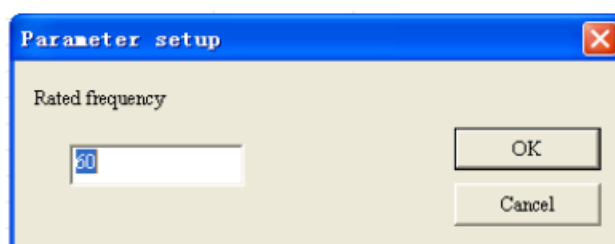

Figure 3-4 Parameter setup dialog box
- Double-click the line of the desired parameter, and the Parameter setup dialog box appears, as shown in Figure 3-4.